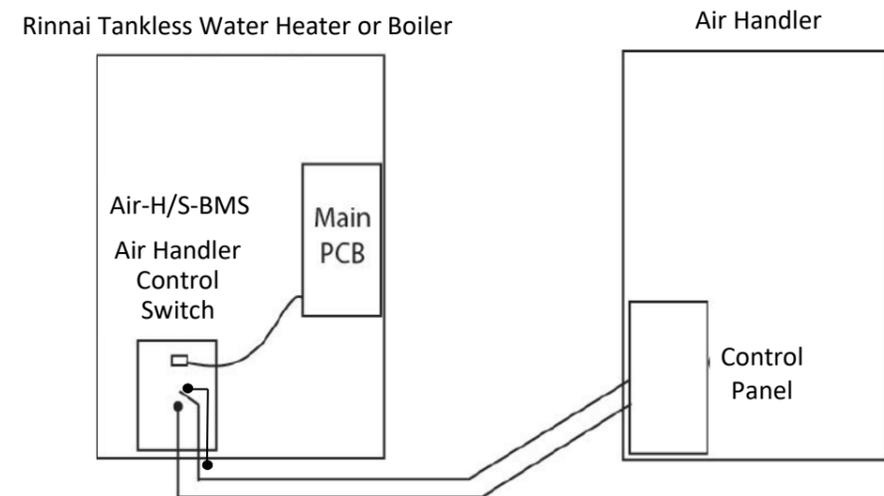

Figure 9
4. Attach the switch circuit board using the mounting screw provided (A). If required, adjust the position of the main wiring bundle to provide enough room.
5. Attach the harness plug labeled "S-BMS" or "Air-H" to the matching socket on the S-BMS/Air Handler Switch (C).
6. **For Air-H — Thermostat Wiring:** Using the provided crimp connectors (B), connect the white and black leads of the switch circuit board to the "W" contact on the indoor thermostat and fan coil (polarity is not important). See Table 1 and Figures 9 through 14 for additional details. Final crimp connector should be connected to the unused red wire lead on the switch circuit board.